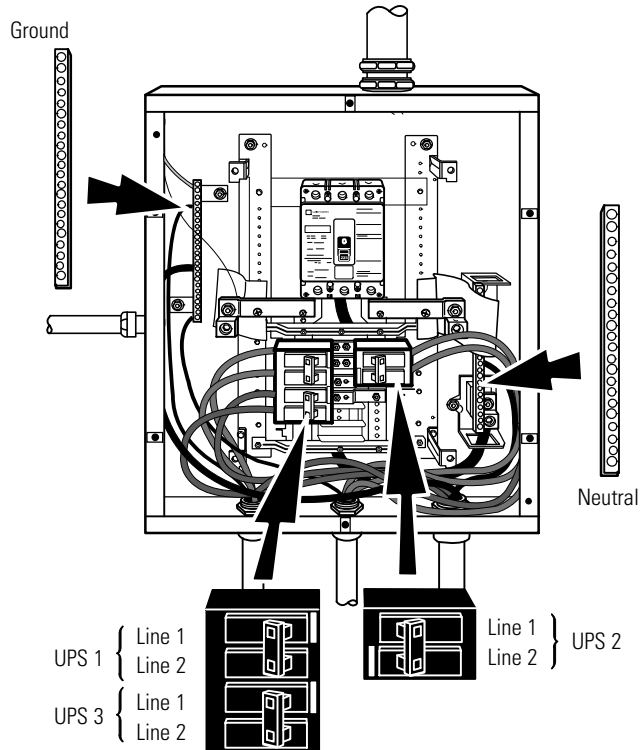

Figure 11. UPS Output to Parallel Tie Cabinet Wiring
- 13.** Hardwire the output terminations (TB1-6 through TB1-9) from each UPS to the parallel tie cabinet (see Figure 11).